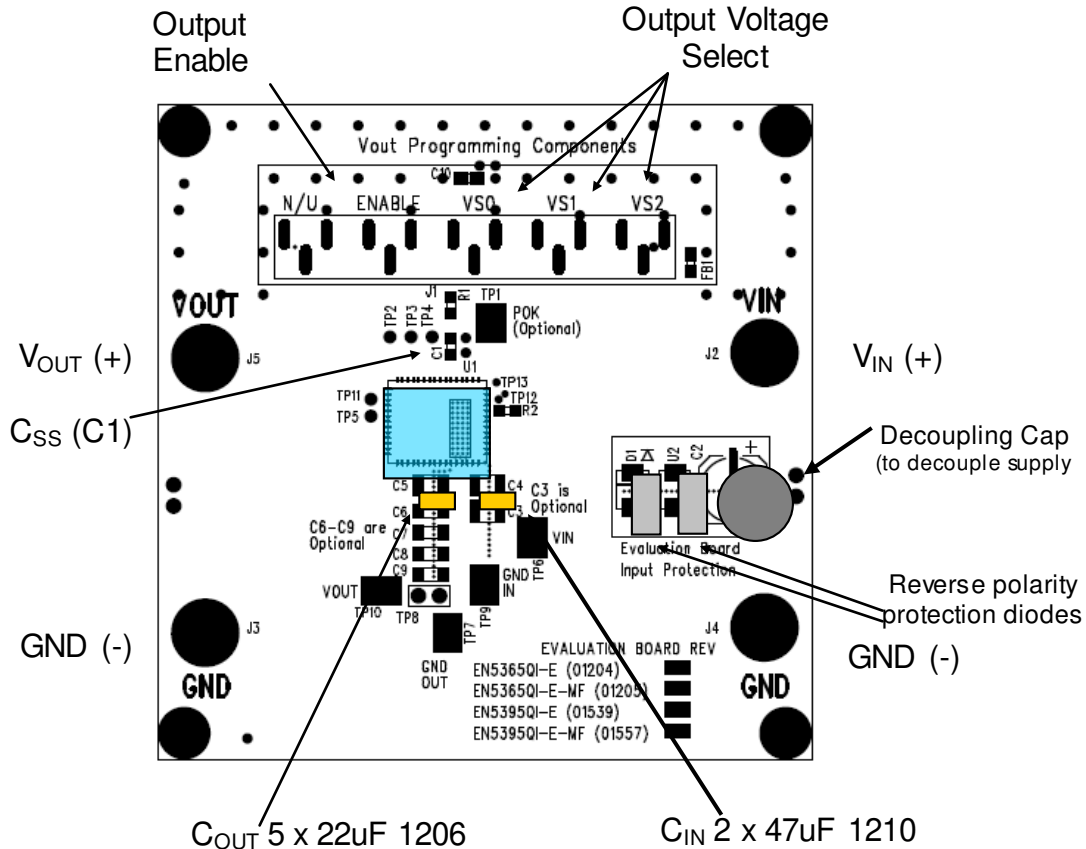

Figure 1. Evaluation Board Layout.
Figure 1 shows a top view of the evaluation board.
**STEP 3:** Connect Power Supply to the input power connectors, VIN (+) and GND (-) as indicated in Figure 1 and set the power supply to the desired voltage
**STEP 4:** Connect the load to the output connectors VOUT (+) and GND (-), as indicated in Figure 1.